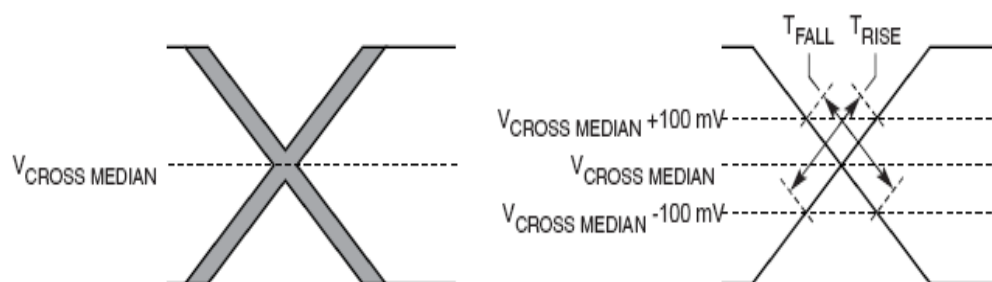

Figure 44. Single-Ended Measurement Points for Rise and Fall Time Matching
- Matching applies to rising edge for SD_REF_CLK and falling edge rate for $\overline{\text{SD_REF_CLK}}$. It is measured using a 200 mV window centered on the median cross point where SD_REF_CLK rising meets $\overline{\text{SD_REF_CLK}}$ falling. The median cross point is used to calculate the voltage thresholds that the oscilloscope uses for the edge rate calculations. The rise edge rate of SD_REF_CLK must be compared to the fall edge rate of $\overline{\text{SD_REF_CLK}}$, the maximum allowed difference should not exceed 20% of the slowest edge rate. See Figure 44.